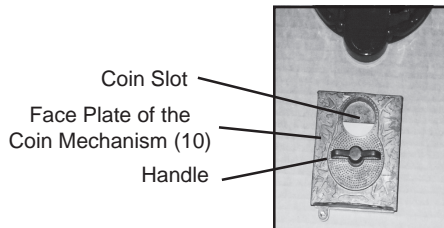

Figure 4
1. Place the coin into the slot (**See Figure 4**) on the Face Plate of the Coin Mechanism (10). Turn the Handle one revolution. To dispense without using coins, with the Globe off, lift the Coin Mechanism (10) upward from its position. Turn over. Unscrew and remove the brass colored restraining arm on the back of the Coin Mechanism (10). Reassemble. **See Figures 4 & 5.**